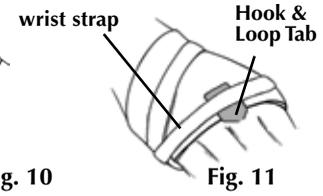

Fig. 11
6. If the Hook and Loop Tab is lifting the Cuff up away from the hand, the tab may be placed onto the Cuff first and the wrist strap wrapped on top of it (Fig. 11).